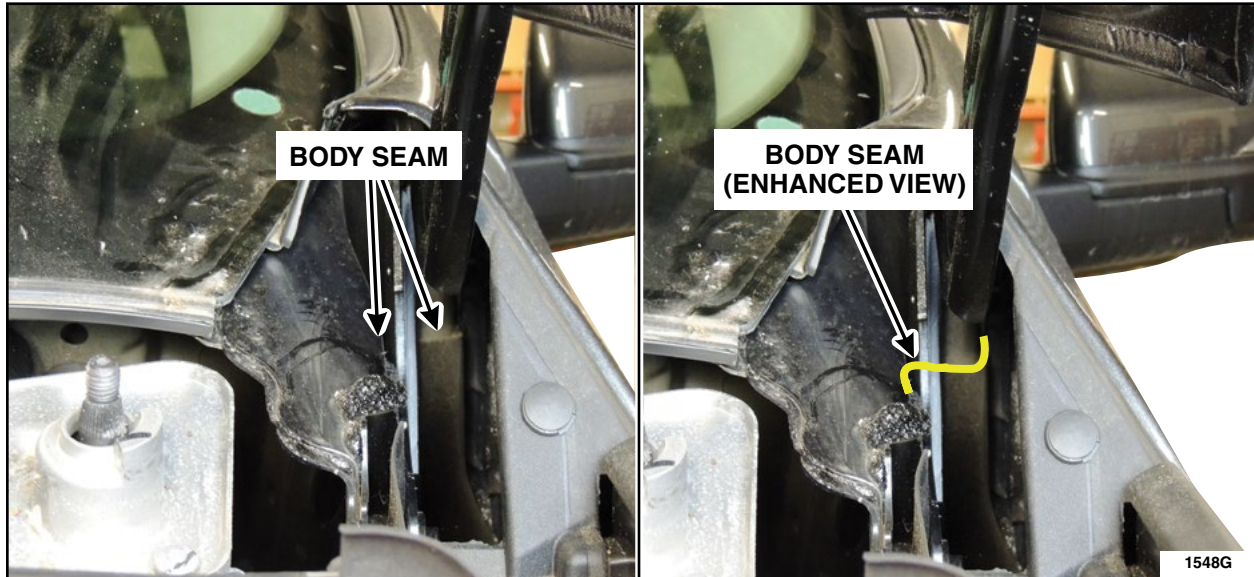

FIGURE 9
11. Open the hood and locate the body seam that runs behind the hood hinge at the base of the exterior A-pillar on both the LH and RH sides of the vehicle. See Figures 9 and 10.